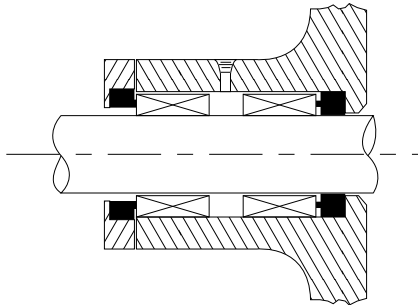

FIGURE 42. Double Seal
- The double seal consists of two single seals installed in the stuffing box (Figure 42).